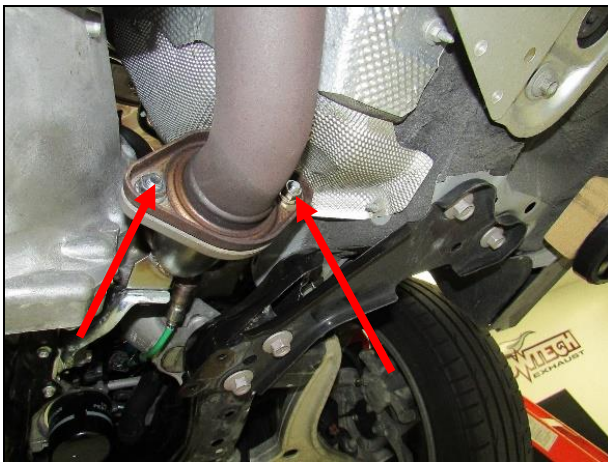

Figure 15
- Connect the header flange to the resonator flange. Tighten the (x2) 17mm head bolts and (x2) 15mm head nuts that were supplied with the kit (**Figure 15**).